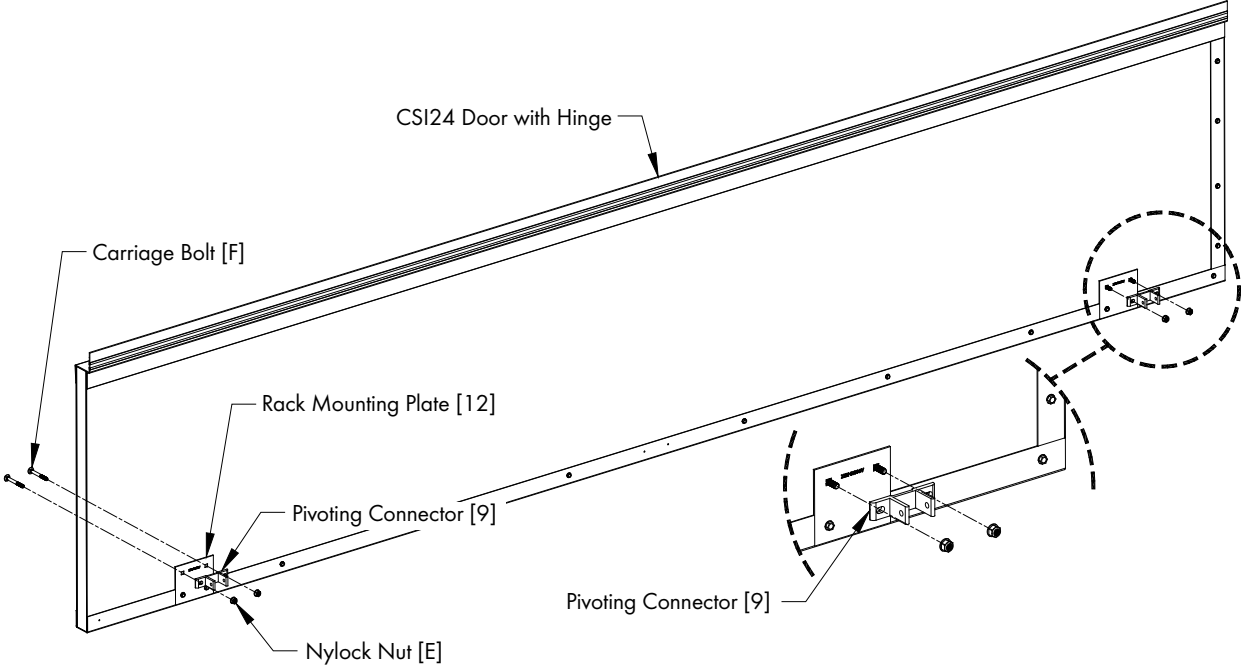

Figure 17
Secure a Pivoting Connector [9] to the Pair of holes in each Rack Mounting Plate on Hinge Side using (2) Carriage Bolts [F] and Nylock Nuts [E], with the Nuts on the Pivoting Connector. See Figure 17.